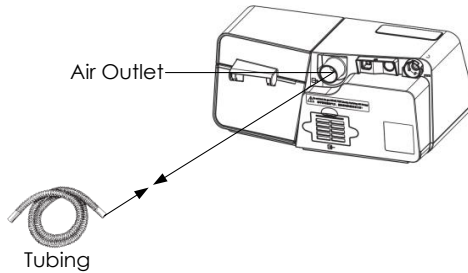

Fig. 12-4
(1) Connect one end of the tubing to the air outlet of the device, as shown in Fig. 12-4.